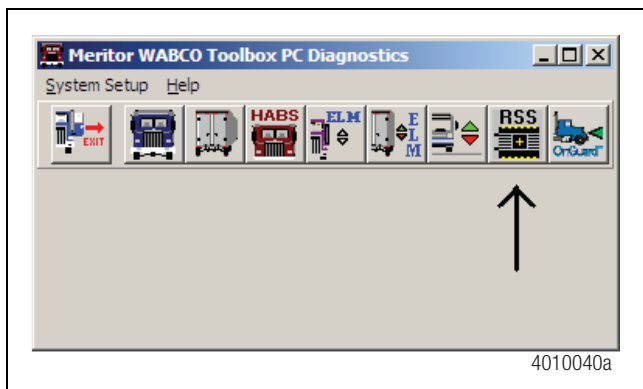

Figure 60
1. From the main screen of TOOLBOX™ Software, click on the RSS icon. Figure 60.